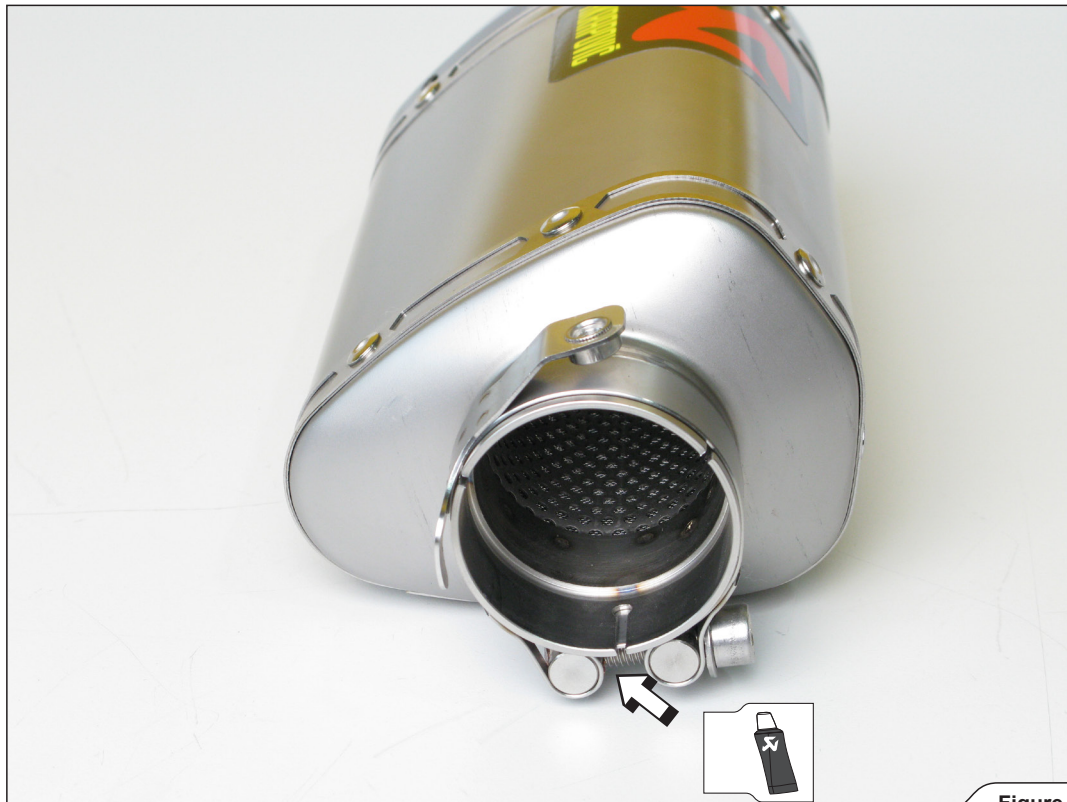

Figure 5
1. Correctly install and position the metal clamp onto the muffler inlet bush, as shown (Figure 5).